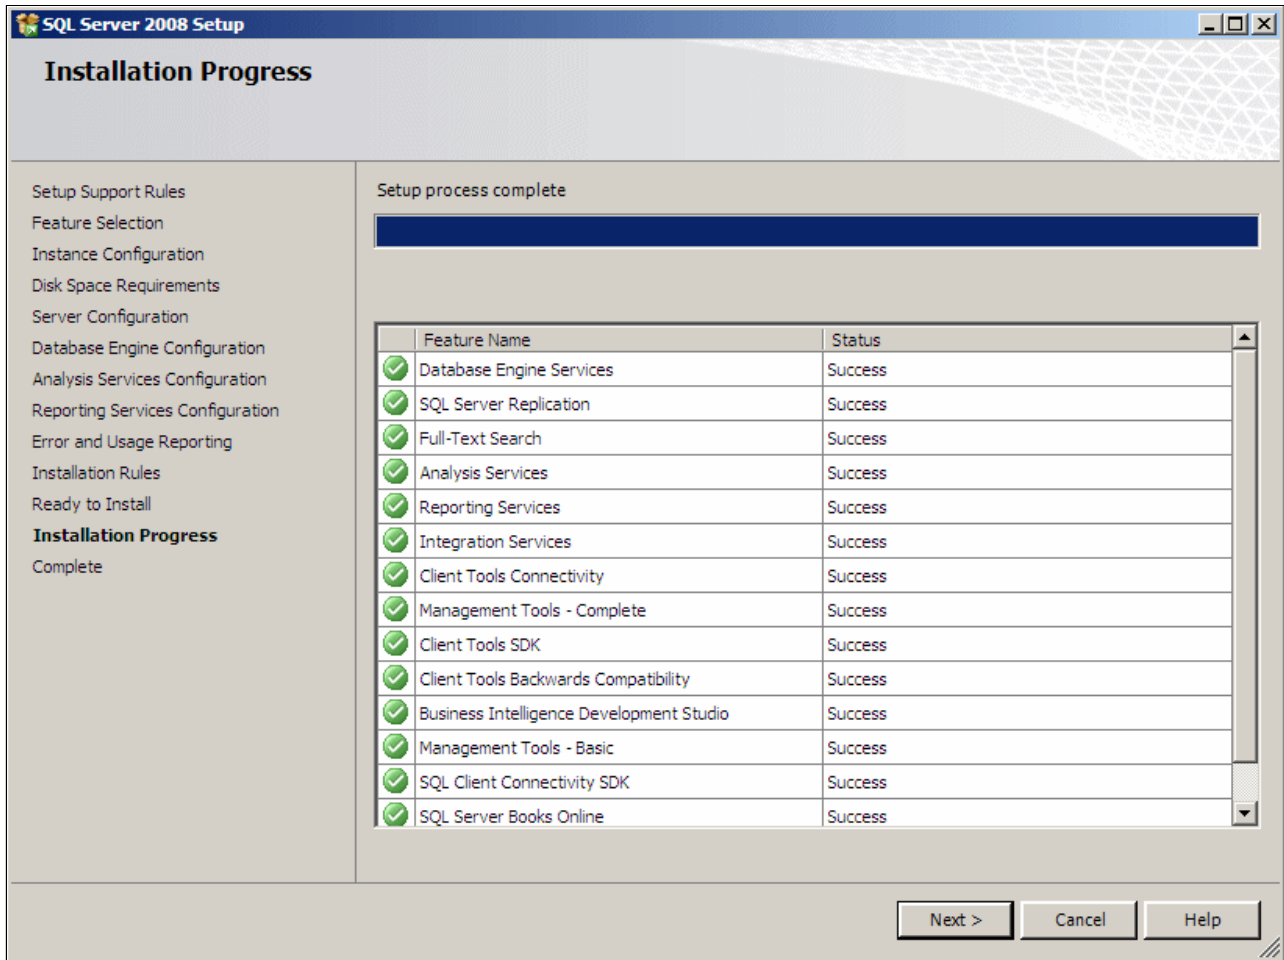

Figure 6-32 SQL installation status.
16. The install process shows a progress bar as each component is installed. The “Installation Progress” panel (Figure 6-32) displays when the installation is complete. The panel displays the installation status of each feature. Those installed will have a green tick as well as the status “Success”. Rectify any failures before continuing. Click **Next**.